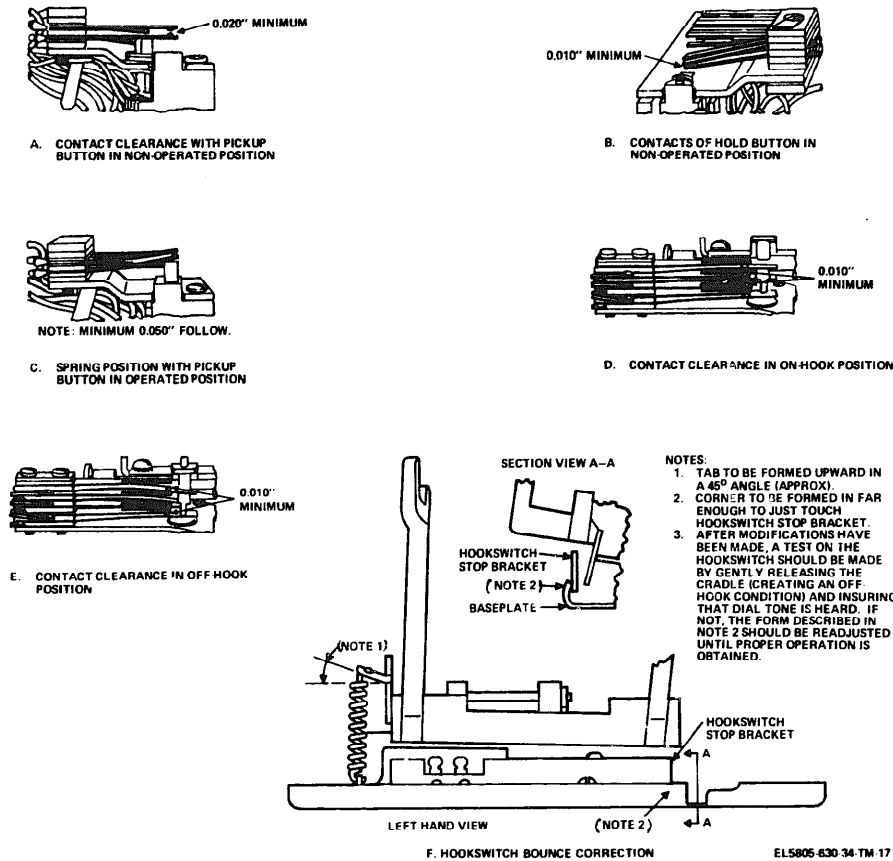

Figure 3-5. Contact clearance and hookswitch bounce correction diagram.
(1) Disconnect the five interconnecting wires from the terminal board.
(2) Disconnect the hookswitch and exclusion key leads that terminate on the terminal board.
(3) Remove the terminal board, mounting screw (57) and loosen the two key frame assembly screws (21).
(4) Lift the key assembly so that it will come out of the slot in the chassis.
i. Pushbutton Assembly Adjustment. Pushbutton assembly spring adjustments are as follows: (see fig. 3-5, A through C).